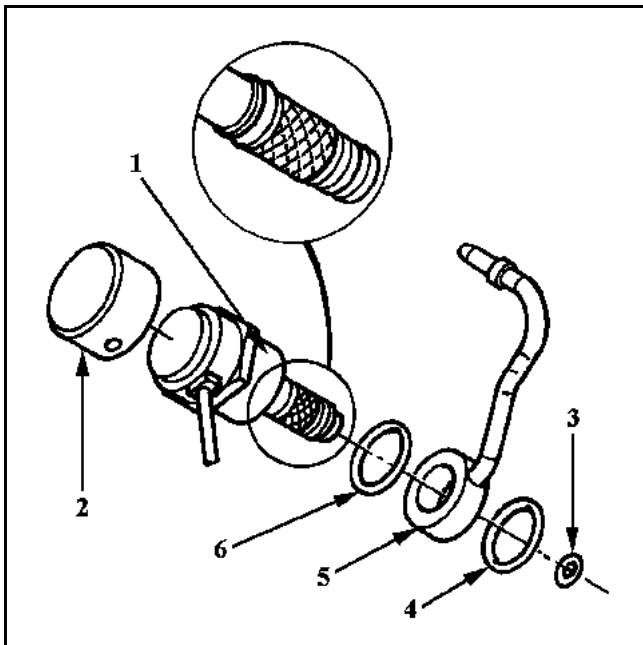

Fig. 1
- advance actuator (1) (**Fig. 1**).
- The small filter (3) at the base of the socket (**Fig. 1**) **must** be removed using a clean pair of needle-nose pliers to avoid introducing any foreign bodies into the pump.
- a) the return banjo gasket (4) (**Fig. 1**) and the actuator gasket (6) (**Fig. 1**),
- b) the new actuator (1) (**Fig. 1**) with new gauze.
- Fit the new cover (2) (**Fig. 1**) on the actuator, reconnect the connector and fit the protective plate.